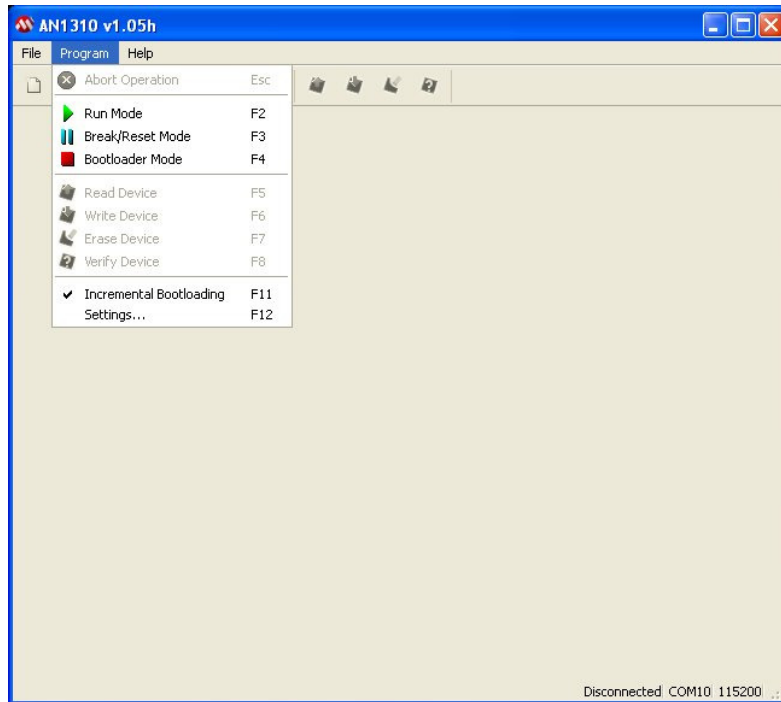

Figure 20. Finding the Bootstrap Loader Settings.
4. To ensure the Bootloader is set up correctly Click on the 'Program' item on the Menu Bar. This will produce a dropdown menu as shown in Figure 20.